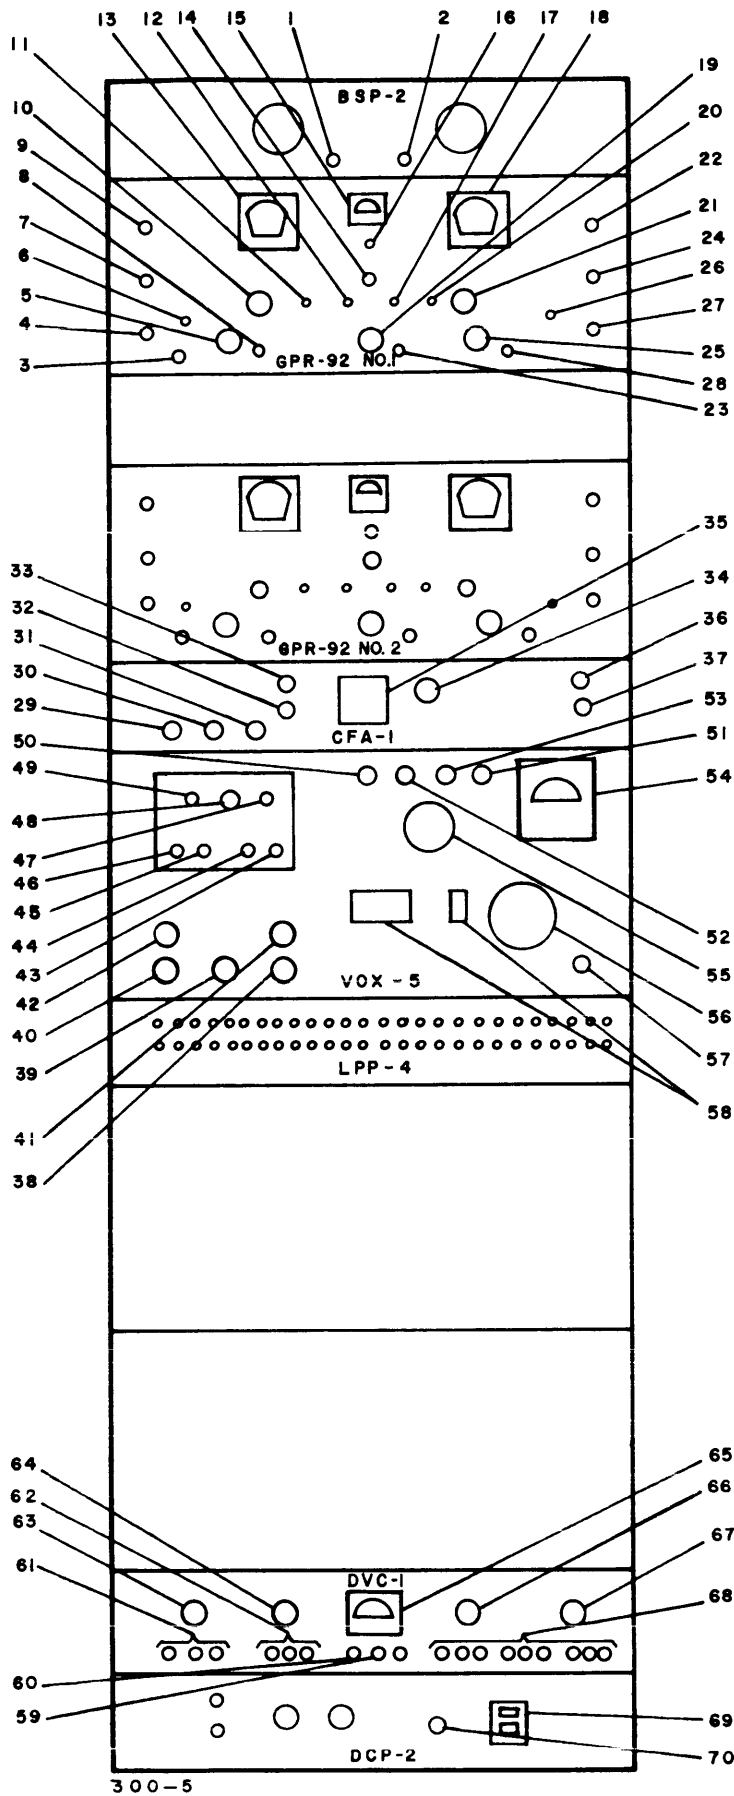

Figure 3-1. Controls and Indicators, DDR-8
Figure 3-1 illustrates the location of all DDR-8 front-panel controls and indicators used during normal operation. Figure 3-1 is arranged as a pullout page in order that it may serve as a reference for procedures given in Sections 2, 3, and 4. Only the controls and indicators on the upper GPR-92 unit are indicated; further, the upper unit is arbitrarily labeled GPR-92 No. 1, and the lower unit is labeled GPR-92 No. 2. Table 3-1 lists the controls and indicators and the function of each.
a. GENERAL - As mentioned in paragraph 3-1, only space-diversity operation will be discussed in the following paragraphs. Haphazard operation or improper setting of controls will result in poor reception; for this reason, the operator should first familiarize himself with all controls and indicators on the DDR-8. Refer to figure 3-1 and table 3-1 for the location and function of DDR-8 controls and indicators, and proceed as described in paragraphs b through g below.
Numbers enclosed in parenthesis are callouts referenced to figure 3-1.
Numbers enclosed in parenthesis are callouts referenced in figure 3-1.